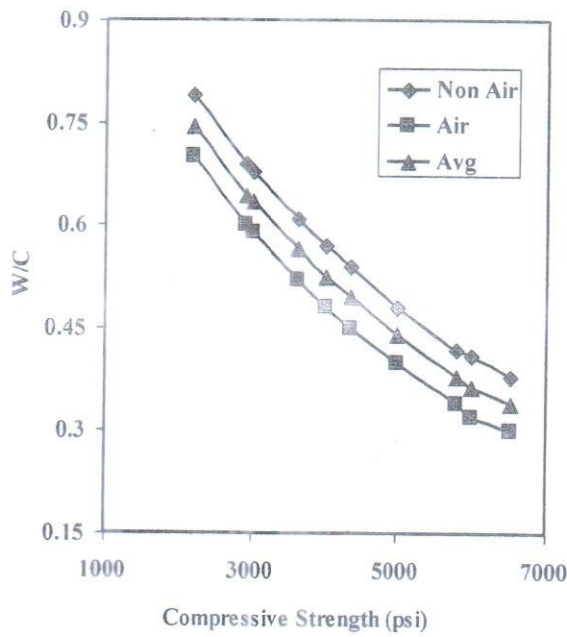

Fig. 1 W/C versus Compressive Strength (aggregate type = stone chips)
- Variation of compressive strength (28 days) with W/C (Fig. 1),